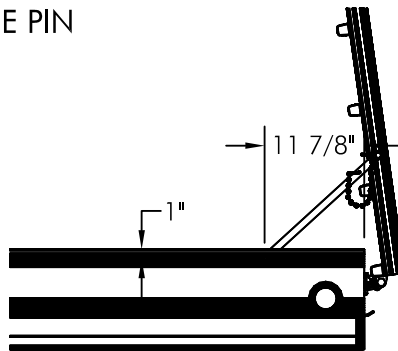

Fig. 1
DRILL (1) 29/64" Ø THRU EACH SIDE OF THE TRAILER FOR THE SIDE BRACES 1" FROM THE TOP OF THE TRAILER SIDE AND 11 7/8" FROM THE BACK. SEE FIG. 1 FOR HOLE LOCATION. FASTEN BRACE W/(1) 3/8 x 1" CARRIAGE BOLT, 3/8" FLATWASHER & (1) 3/8" NYLOCK. REPEAT PROCEDURE ON OTHER SIDE OF TRAILER. RAISE THE RAMP UNTIL THE HOLE IN THE RAMP LINES UP WITH THE HOLE IN THE BRACE & INSERT THE PIN INCLUDED WITH SIDE BRACE.